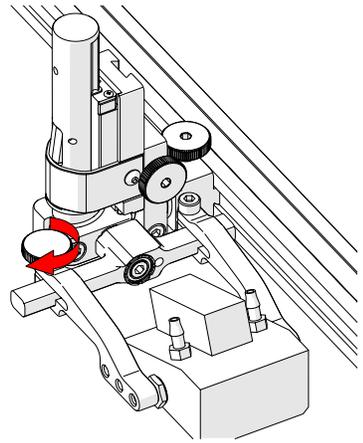

Fig. 79 - Tighten arm knob
6. Tighten the probe holder arm adjustment knob (Fig. 79).